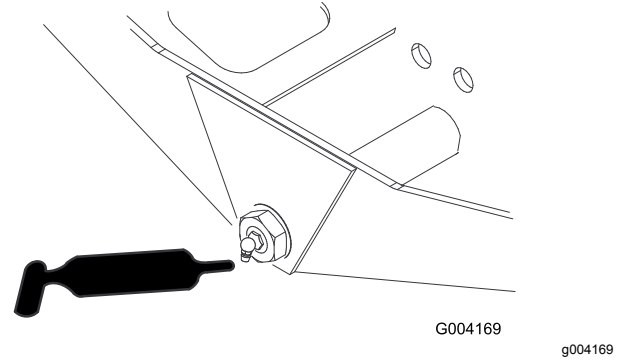

Figure 48
- Axle steering pivot (1) (Figure 48)